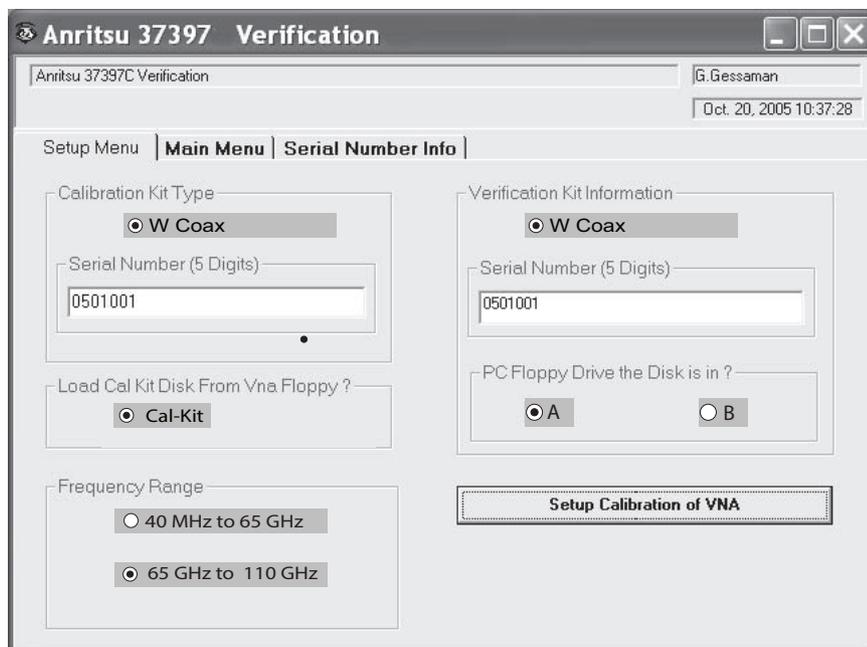

Figure 7-9. Anritsu 37397 Verification – Setup Menu Tab
16. As shown in Figure 7-9, in Verification Kit Information area, select W Coax and in the Serial Number area, enter the 5-digit serial number of the calibration kit. Finally, in the PC Floppy Drive the Disk Is In area, select the PC drive that contains the component data floppy disk.